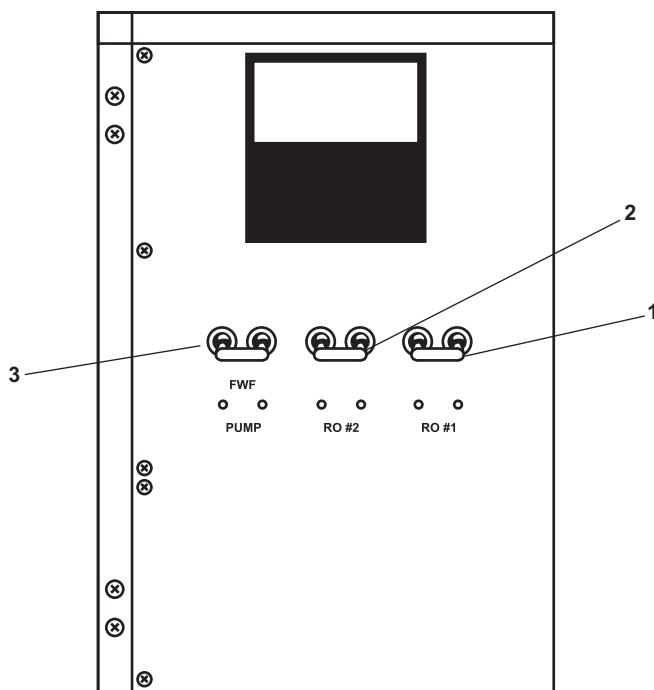

Figure 6. ROWPU 24 Vdc Control Panel
- b. RO #2 (figure 6, item 2)
- c. FWF PUMP (figure 6, item 3)